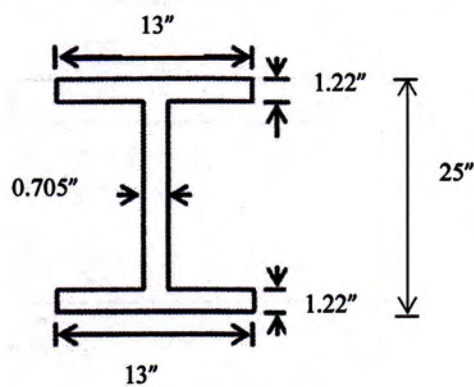

Figure 4
- (b) Determine elastic shear stress distribution on W24x162 beam subjected to a service load shear force 300 kips shown in figure 4. Also compute the portion of shear carried by the flange. Given, $I_x = 5170 \text{ in}^4$. (10)